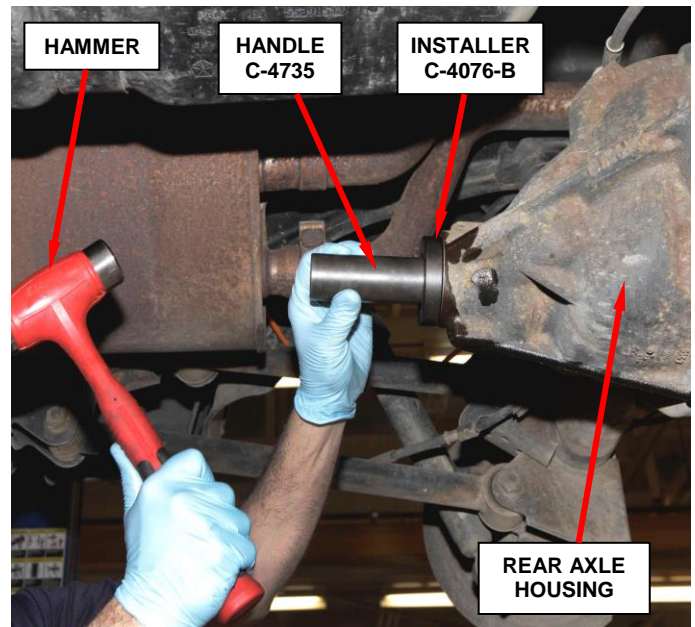

Figure 24 – Install Pinion Seal
20. Apply a light coating of gear lubricant on the lip of the new pinion oil seal. Install the pinion seal with Installer C-4076-B, Handle C-4735 and a hammer (Figure 24).